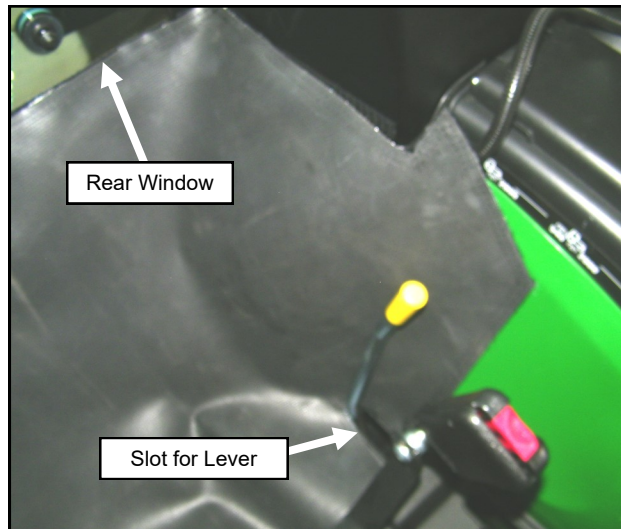

Fig. 19.2a (Install Under Seat Filler)
19.2 Tip the seat forward and set the filler in place. See Figures 19.2a and 19.2b. Adjust the Velcro so that the back will be on the glass above the rubber seal, the sides are on sheet metal and the corners of the filler roughly line up with the corners of the rear legs, and the front edge is far enough back to not interfere with the function of the levers and knobs.